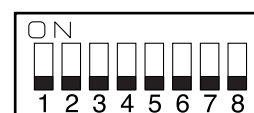

Figure 5-176
- 1) Remove the ADF controller cover, and set the DIP switch (SW1) on the ADF controller PCB as indicated in Figure 5-176 (normal operation mode).